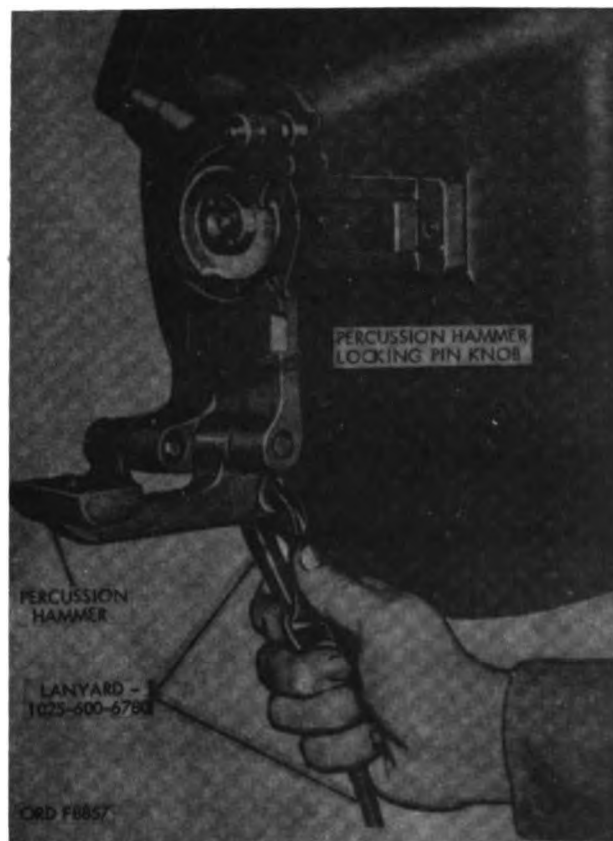

**Figure 86.** Inserting firing mechanism M1 in firing mechanism housing.
- (2) Should the primer be slightly oversize or the primer holder dirty, the primer will stick before it is properly seated. Do not exert force to seat the primer holder. Remove the primer and clean the primer holder, or insert another primer.
b. Insert the firing mechanism in the firing mechanism housing (fig. 86), exercising care that the front end of the primer has entered the obturator spindle plug. Seat the mechanism by turning it clockwise until it has contacted the firing mechanism stop stud and the firing mechanism safety latch has moved to the right. If the mechanism will not seat properly, the primer may be oversize, its seat in the plug or in the primer holder may be dirty, or the breech may not be fully closed.